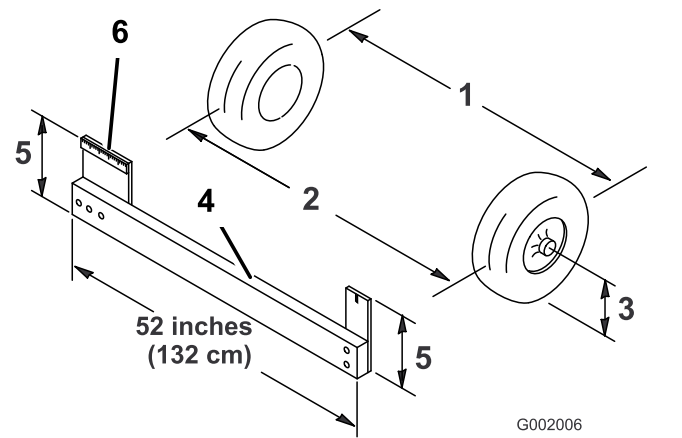

Figure 51
- Measure the distance between both of the front tires at the axle height at both the front and rear of the front tires (Figure 51).
Note: You will need a fixture or alignment gauge for measuring the rear of the front tires at axle height. Use the same fixture or alignment gauge to accurately measure the front of the front tires at axle height (Figure 51).